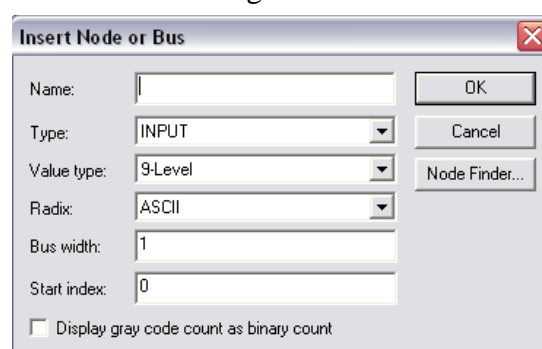
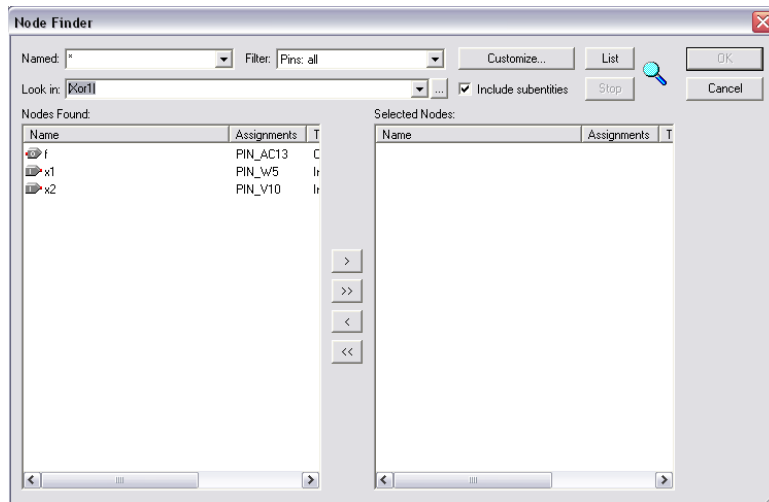
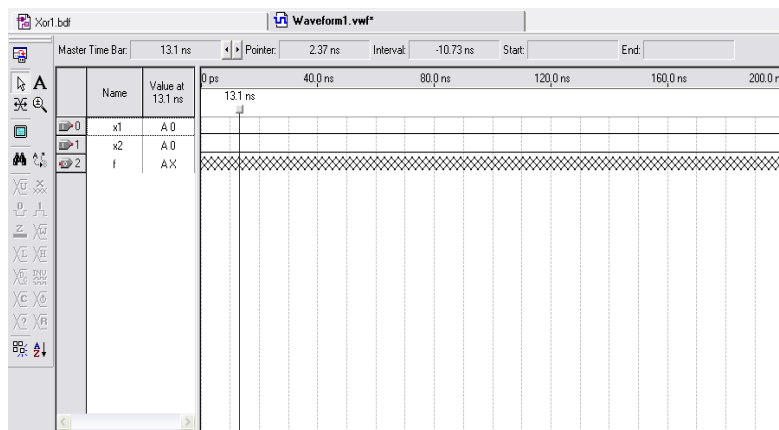

Figure 29. The Insert Node or Bus dialogue.
Figure 30. Selecting nodes to insert into the Waveform Editor.
Figure 31. The nodes needed for simulation.
3. Next, we want to include the input and output nodes of the circuit to be simulated. Click **Edit > Insert> Insert Node or Bus** to open the window in Figure 29.
It is possible to type the name of a signal (pin) into the Name box, but it is easier to click on the **Node Finder** button to open the window in Figure 30. The Node Finder utility has a filter used to indicate what type of nodes are to be found. Since we are interested in input and output pins, **set the filter to Pins: all. Click the List button** to find the input and output nodes as indicated on the left side of the figure.
Click on the x1 signal in the Nodes Found box in Figure 30, and then **click the  sign** to add it to the Selected Nodes box on the right side of the figure. Do the same for x2 and f. Click **OK** to close the Node Finder window, and then click **OK** in the window of Figure 29. This leaves a fully displayed Waveform Editor window, as shown in Figure 31. If you did not select the nodes in the same order as displayed in Figure 31, it is possible to rearrange them. To move a waveform up or down in the Waveform Editor window, click on the node name (in the Name column) and release the mouse button. The waveform is now highlighted to show the selection. Click again on the waveform and drag it up or down in the Waveform Editor.